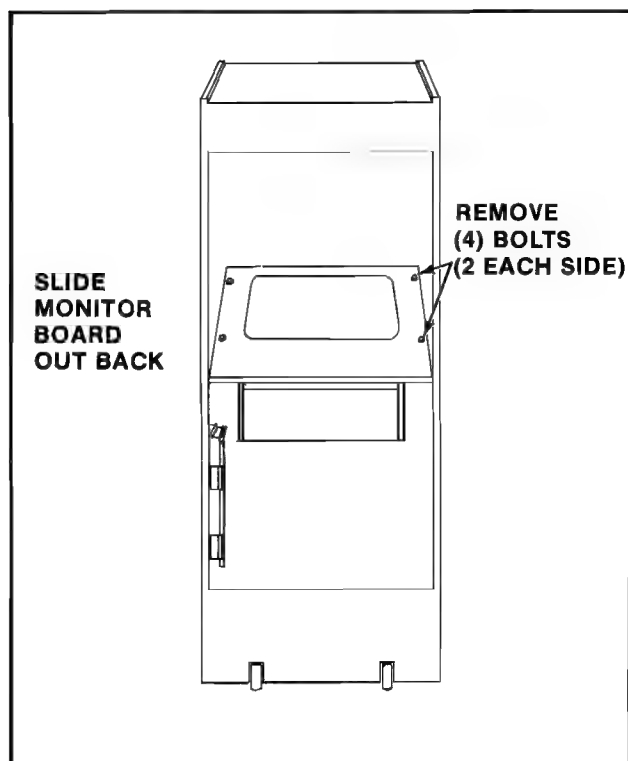

Figure 20 Removing monitor — Upright game
1. UPRIGHT MODEL. SEE FIGURE 20.